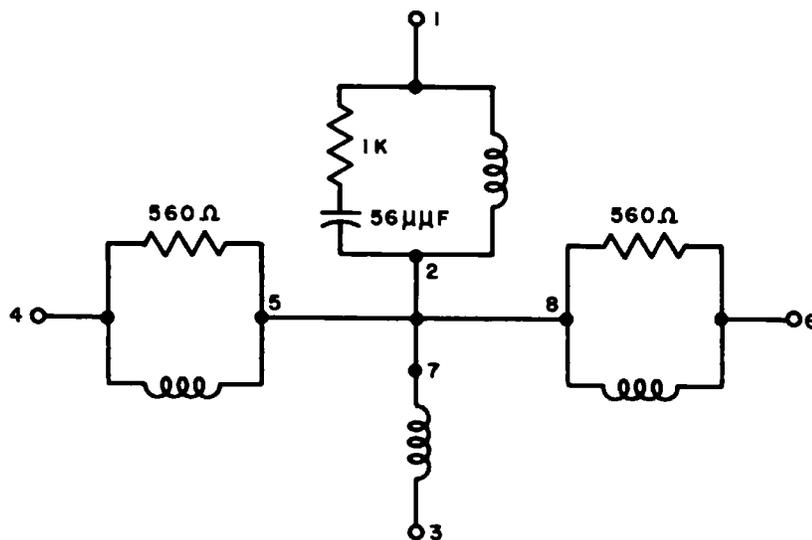

Fig. 7-3. Schematic of a typical deflection yoke used in modern receivers.
**DISCUSSION.** Figure 7-3 illustrates the schematic of a typical deflection yoke, such as is used in many modern receivers. The 1-k ohm resistor in series with the balancing capacitor is not found in all yokes. When it is present, its function is that of a damping resistor.
**QUES. 7-4.** When replacing a defective yoke with another, it is discovered that the horizontal damping components (the 56- $\mu\mu\text{f}$  capacitor and the 1-k ohm resistor in Fig. 7-3) are present
**ANS.** To connect the horizontal damping components into place properly, first determine whether the horizontal output transformer is of the conventional transformer type (separate primary and separate secondary windings) or of the autotransformer type (direct drive). If the transformer is conventional, connect the high-potential side of the secondary to terminal 1 of the yoke, and the low-potential side, or return, to terminal 3 of the yoke (Fig. 7-3). Then connect the horizontal damping network between terminals 1 and 2 of the yoke.